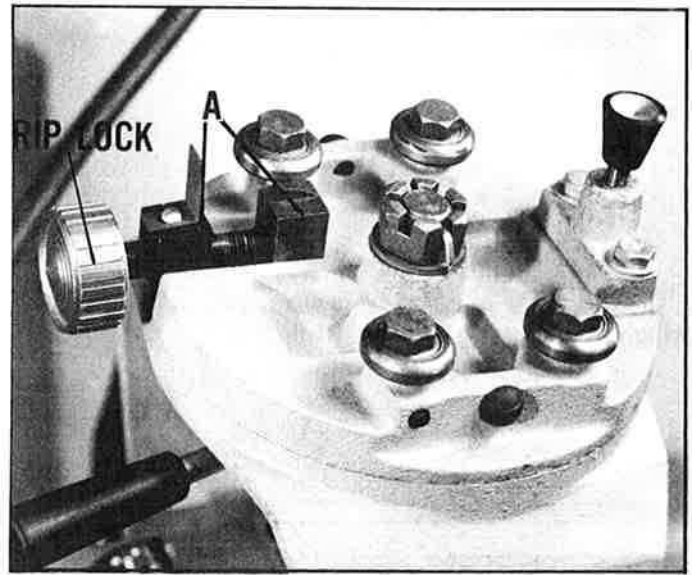

Fig. 8
3. Place rip lock in slot in cuttinghead as shown in Fig. 8 with jaws (A) open.